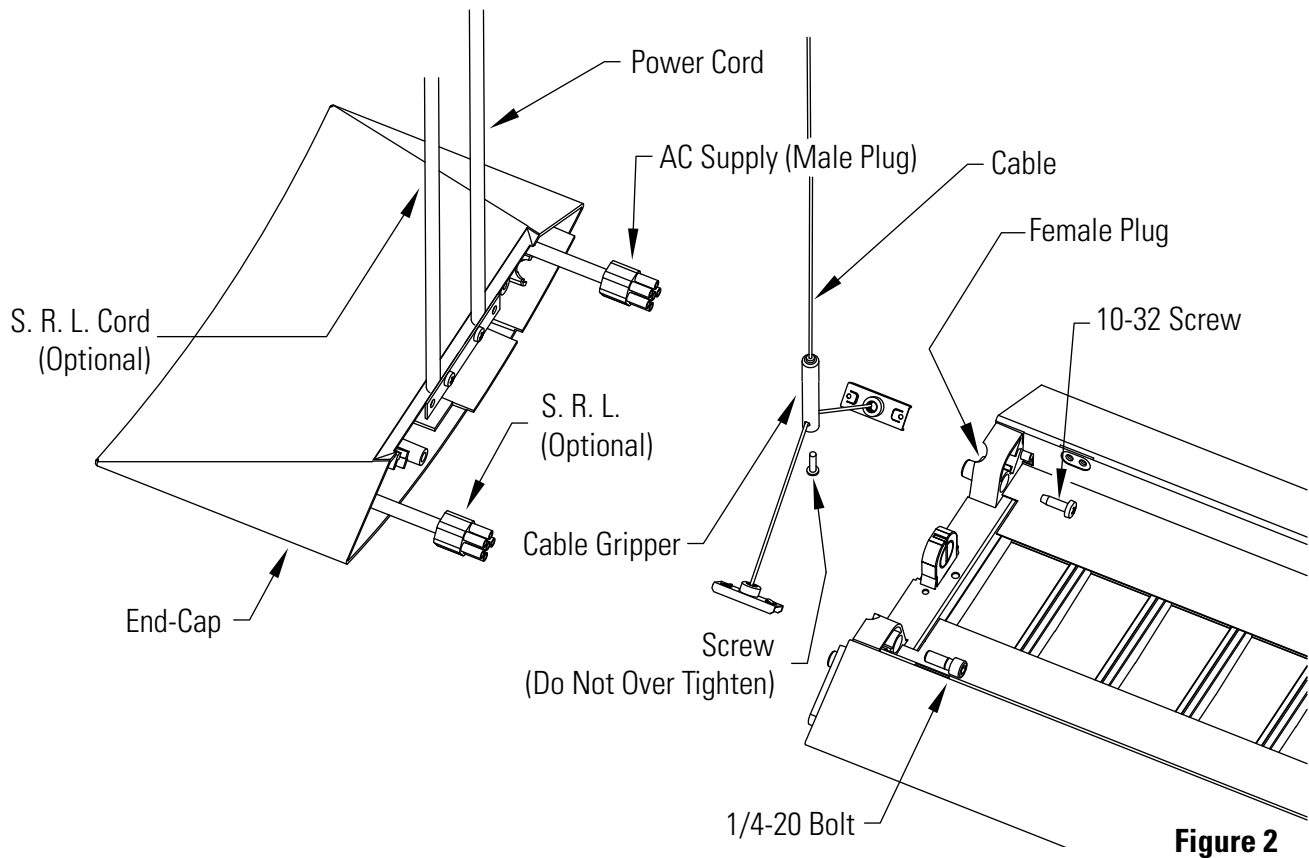

Figure 2
- A. Orient fixture so female plug in fixture faces the power cord male plug. (Fig. 2)
- B. Insert the Hanging Clips from first and second cable suspension assemblies into the fixture. (Fig. 2)
- E. Tighten the 1/4-20 bolt and the 10-32 screw. (Fig. 2)